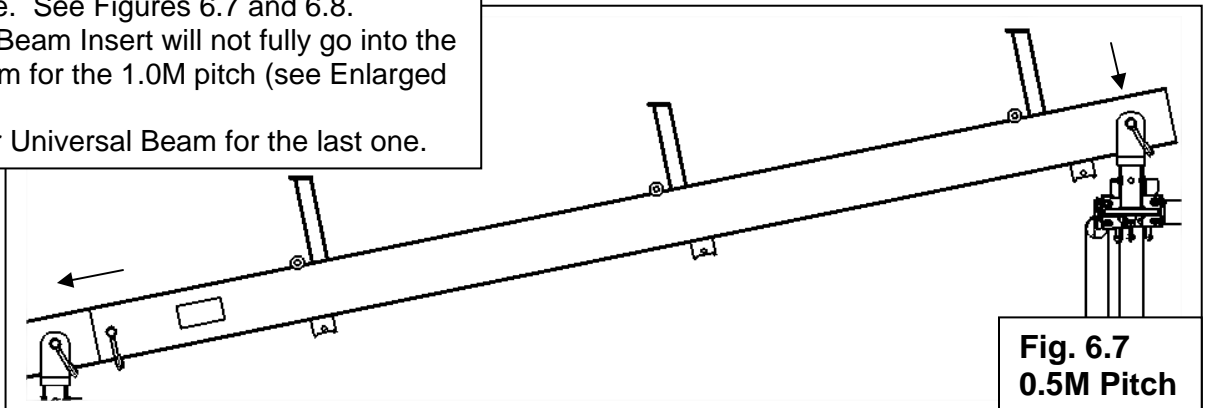

Fig. 6.7
E. Insert Universal Beam with installed Beam Insert into the end of the previous beam. Pin opposite end in Saddle. See Figures 6.7 and 6.8.